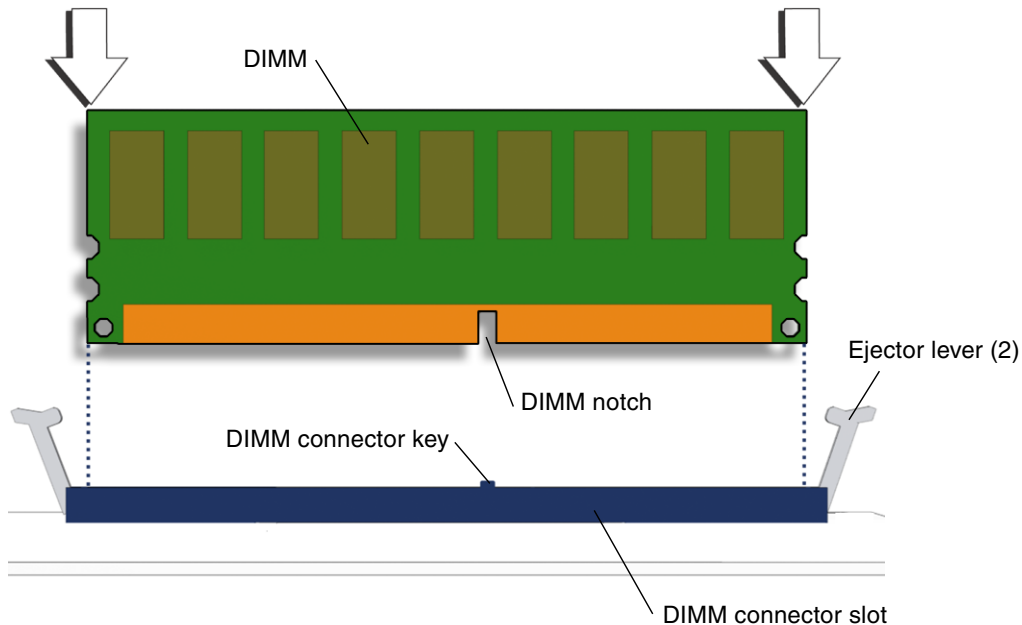

FIGURE 11-6 Aligning the DIMM to the DIMM Connector Slot (View from Top of Motherboard Tray)
5. Align the DIMM with the DIMM connector slot (FIGURE 11-6).